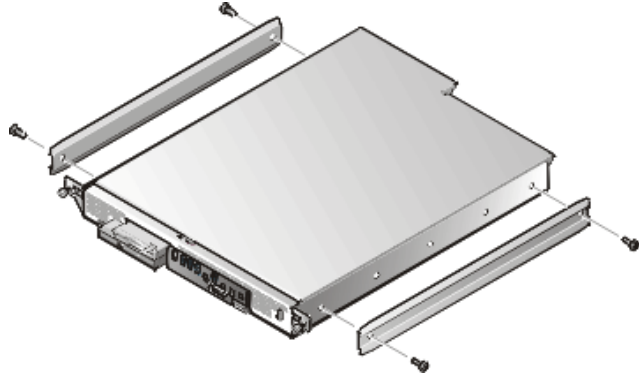

Figure 1-7. Securing the Inner Rails to the System Chassis
1. Locate the two inner rails and position one to the side of the chassis (see Figure 1-7).
Ensure that the flat end of the inside rail is toward the front of the chassis and that the end with two threaded holes is located at the back of the chassis. The flat central part of the inside rail must be facing the chassis, with the raised upper and lower rail surface facing outward (see Figure 1-7).